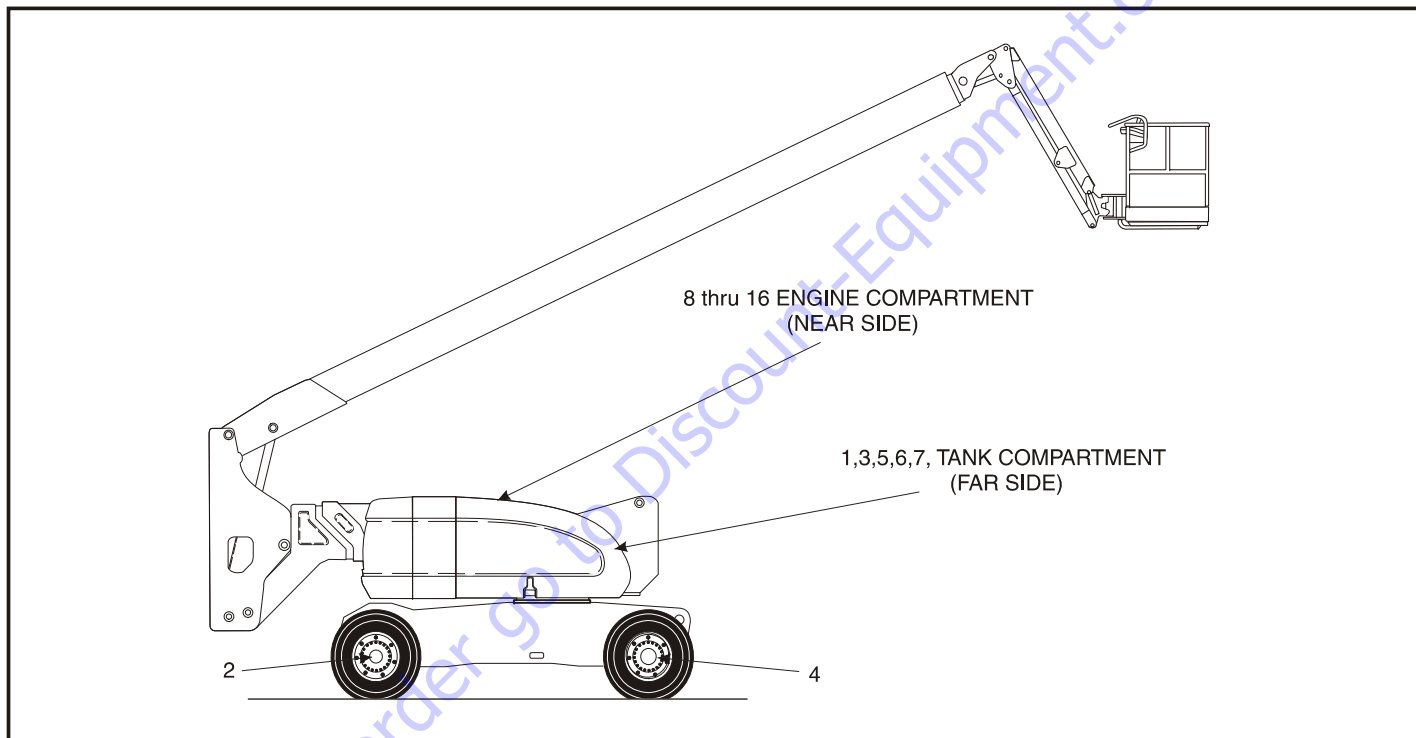

Figure 6-9. Operator Maintenance and Lubrication Diagram
**NOTE:** The following numbers correspond to those in Figure 6-9., Operator Maintenance and Lubrication Diagram.